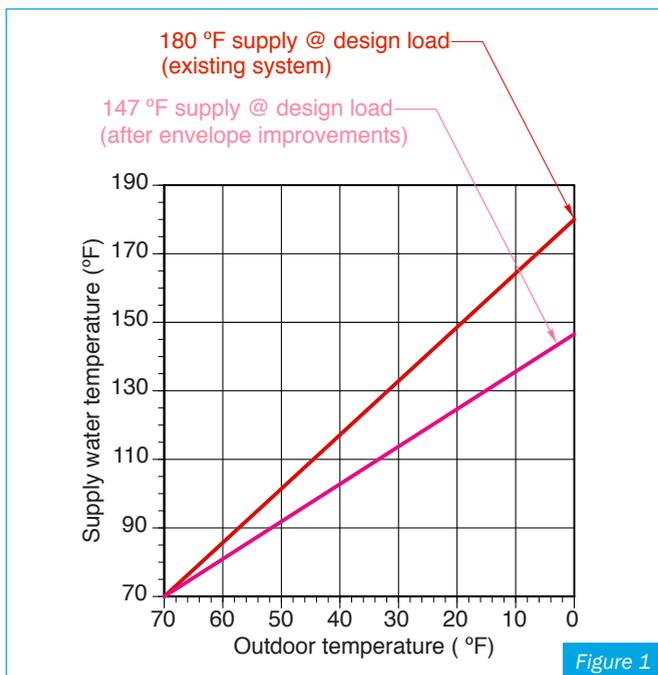

Figure 1
*Figure 1* shows the supply water temperature versus outdoor temperature for the original load, as well as the reduced load after the building envelope improvements were made.